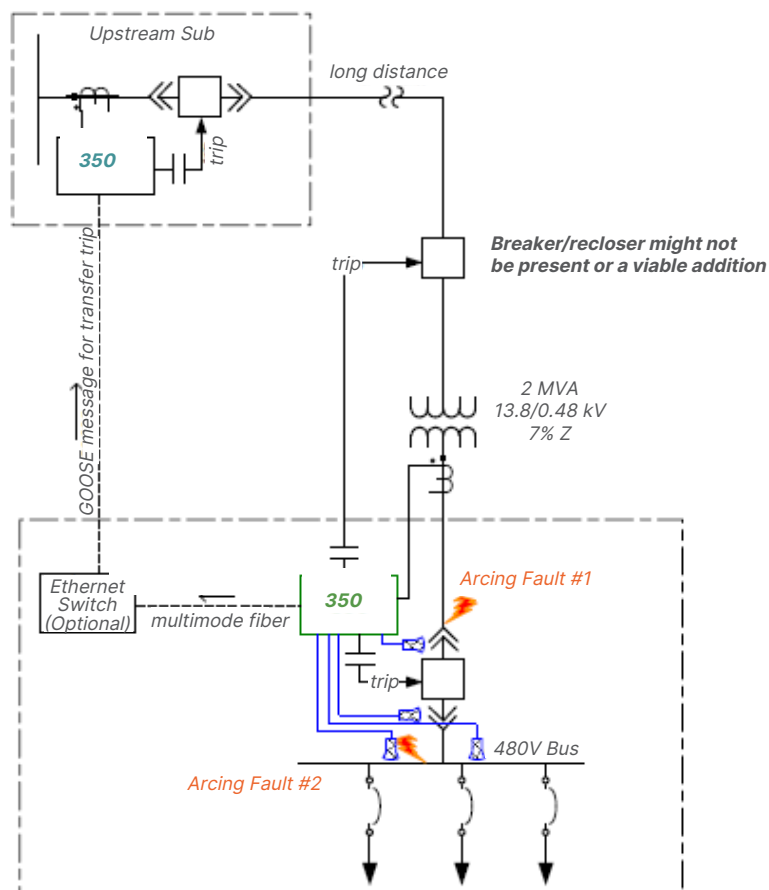

Figure 20. Utilizing Arc Flash for Enhanced Protection Coordination.
2. Navigate to **Setpoints > Control > Logic Elements > Logic Element 1** and design the logic shown in Figure 20. Arc flash light from the desired sensors is brought together in an OR gate and taken out as a contact output 3 in the example shown. Note: A different logic element and contact output can be used.